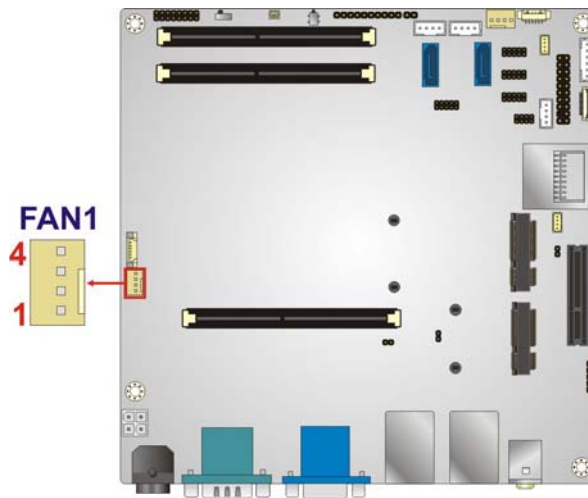

Figure 3-6: CPU Fan Connector Locations
- CN Location:** See **Figure 3-6**